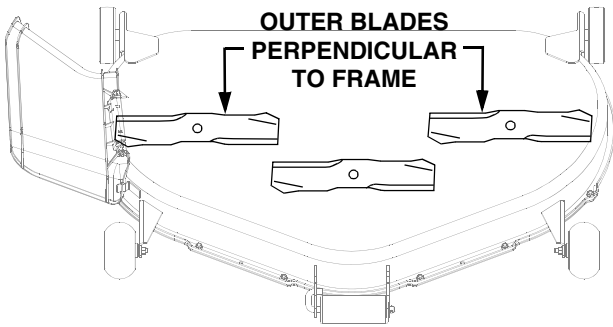

Figure 31
3. Carefully rotate the outer cutting blades so that they are positioned perpendicular to the tractor frame (Refer to Figure 31).